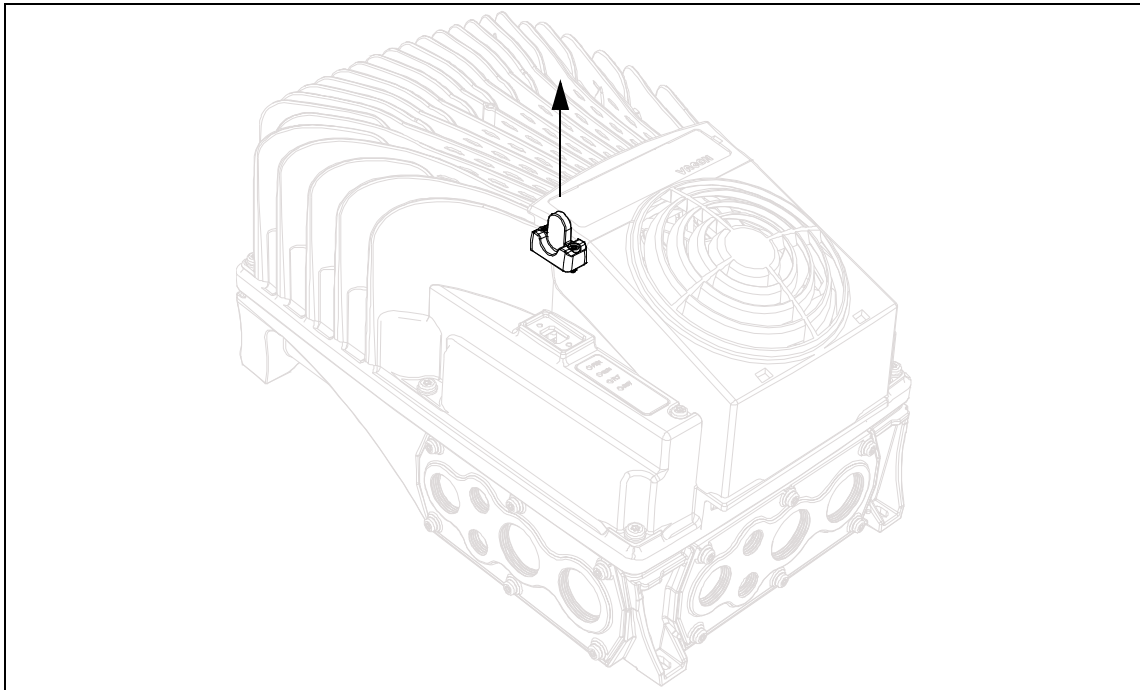

Figure 53. Disconnection of the HMI cap from the drive.
- Remove the HMI cap from the drive as shown in the Figure 53.